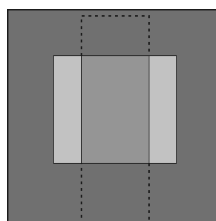

Figure 4. Trench-type pad opening (through-trace type)
3. Trench-over-trace openings, where continuous trenches in solder mask are used to define the entire row (or multiple rows) of pad locations (where the pads themselves are actually part of the trace itself). Refer to Figure 4.